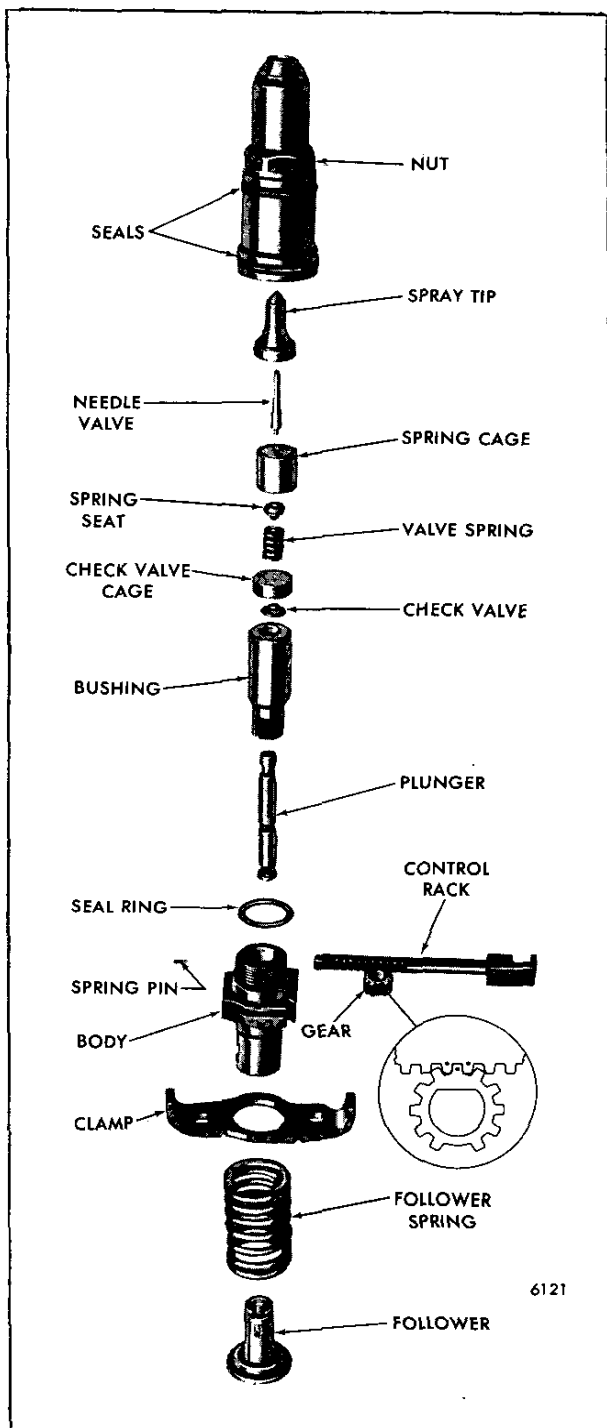

Fig. 15 - Injector Rack, Gear, Spray Tip and Valve Assembly Details and Relative Location of Parts
2. Place the gear in the injector body so that the marked tooth is engaged between the two marked teeth on the rack as shown in Fig. 15.
Refer to Fig. 15 and assemble the parts as follows: